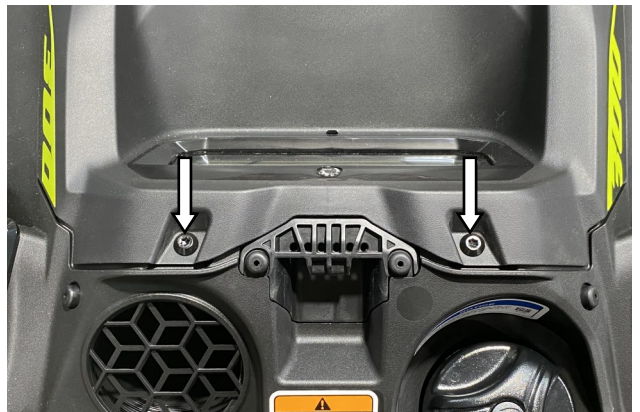

Figure 6
Remove Torx screws (2) securing console cover. Remove console cover by lifting up at front edge and then pulling forward. (See Figure 6)